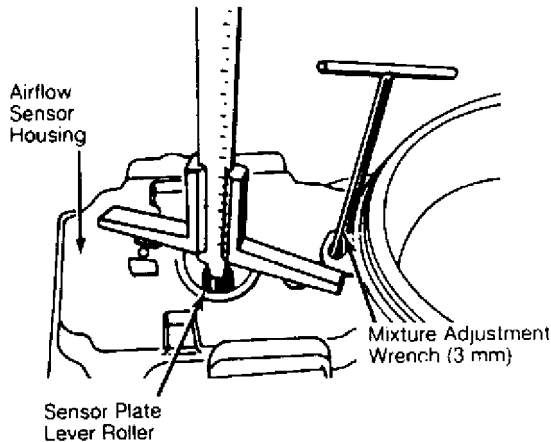

Fig. 9: Adjusting Sensor Plate Lever
2) Use a depth gauge or vernier caliper for measuring distance. See Fig. 9. Distance should be .74-.75" (18.9-19.1 mm). If